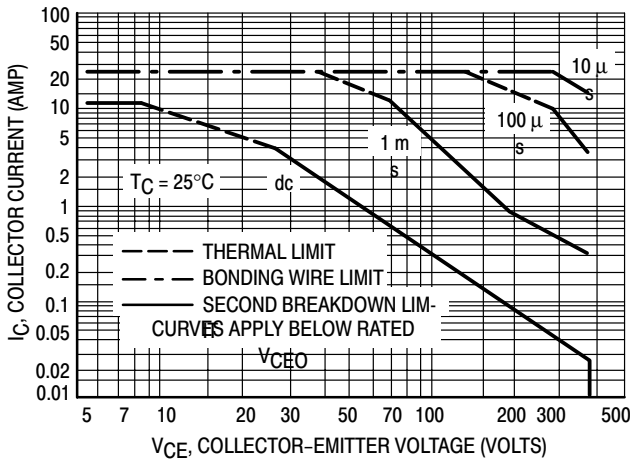
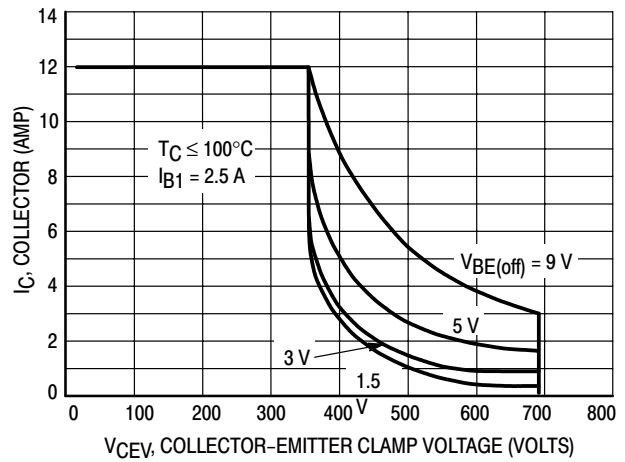
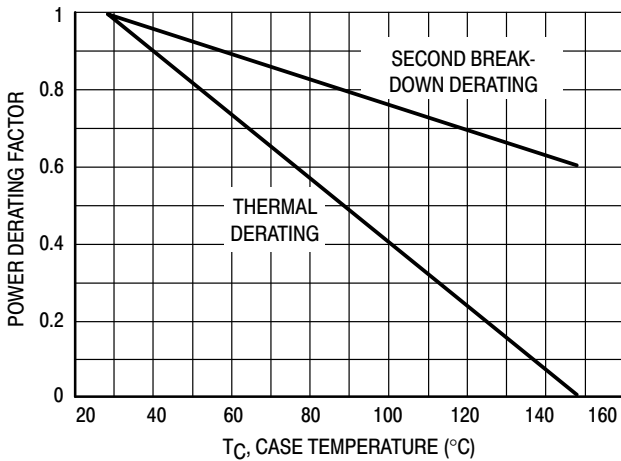
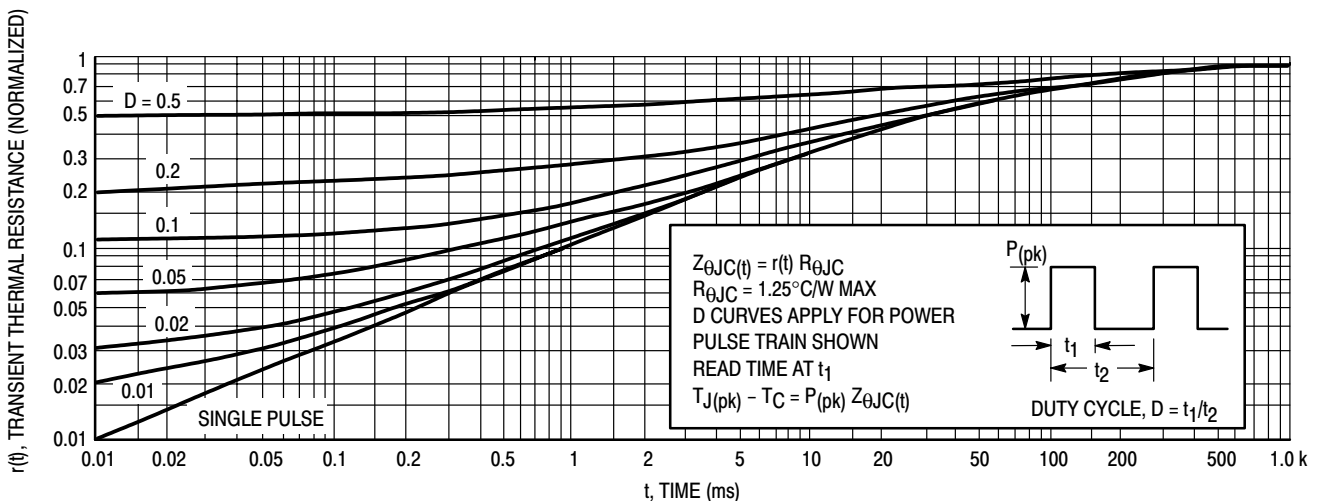

Figure 1. Forward Bias Safe Operating Area
Figure 2. Reverse Bias Switching Safe Operating Area
Figure 3. Forward Bias Power Derating
Figure 4. Typical Thermal Response [ $Z_{\theta JC}(t)$ ]
| Second Breakdown Collector Current with base forward biasedClamped Inductive SOA with Base Reverse Biased | I S/b— | See Figure 1See Figure 2 |  |  |  |
The Safe Operating Area figures shown in Figures 1 and 2 are specified ratings for these devices under the test conditions shown.
The data of Figure 1 is based on  $T_C = 25^\circ\text{C}$ ;  $T_{J(pk)}$  is variable depending on power level. Second breakdown pulse limits are valid for duty cycles to 10% but must be derated when  $T_C \geq 25^\circ\text{C}$ . Second breakdown limitations do not derate the same as thermal limitations. Allowable current at the voltages shown on Figure 1 may be found at any case temperature by using the appropriate curve on Figure 3.
$T_{J(pk)}$  may be calculated from the data in Figure 4. At high case temperatures, thermal limitations will reduce the power that can be handled to values less than the limitations imposed by second breakdown. Use of reverse biased safe operating area data (Figure 2) is discussed in the applications information section.
The sustaining or active region voltage requirements in switching applications occur during turn-on and turn-off. If the load contains a significant capacitive component, high current and voltage can exist simultaneously during turn-on and the pulsed forward bias SOA curves (Figure 1) are the proper design limits.
For inductive loads, high voltage and current must be sustained simultaneously during turn-off, in most cases, with the base to emitter junction reverse biased. Under these conditions the collector voltage must be held to a safe level at or below a specific value of collector current. This can be accomplished by several means such as active clamping, RC snubbing, load line shaping, etc. The safe level for these devices is specified as a Reverse Bias Safe Operating Area (Figure 2) which represents voltage-current conditions that can be sustained during reverse biased turn-off. This rating is verified under clamped conditions so that the device is never subjected to an avalanche mode.
2. The turn-on time does not exceed 10  $\mu$ s (see standard pulsed forward SOA curves in Figure 1).
3. The base drive conditions are within the specified limits shown on the Reverse Bias SOA curve (Figure 2).